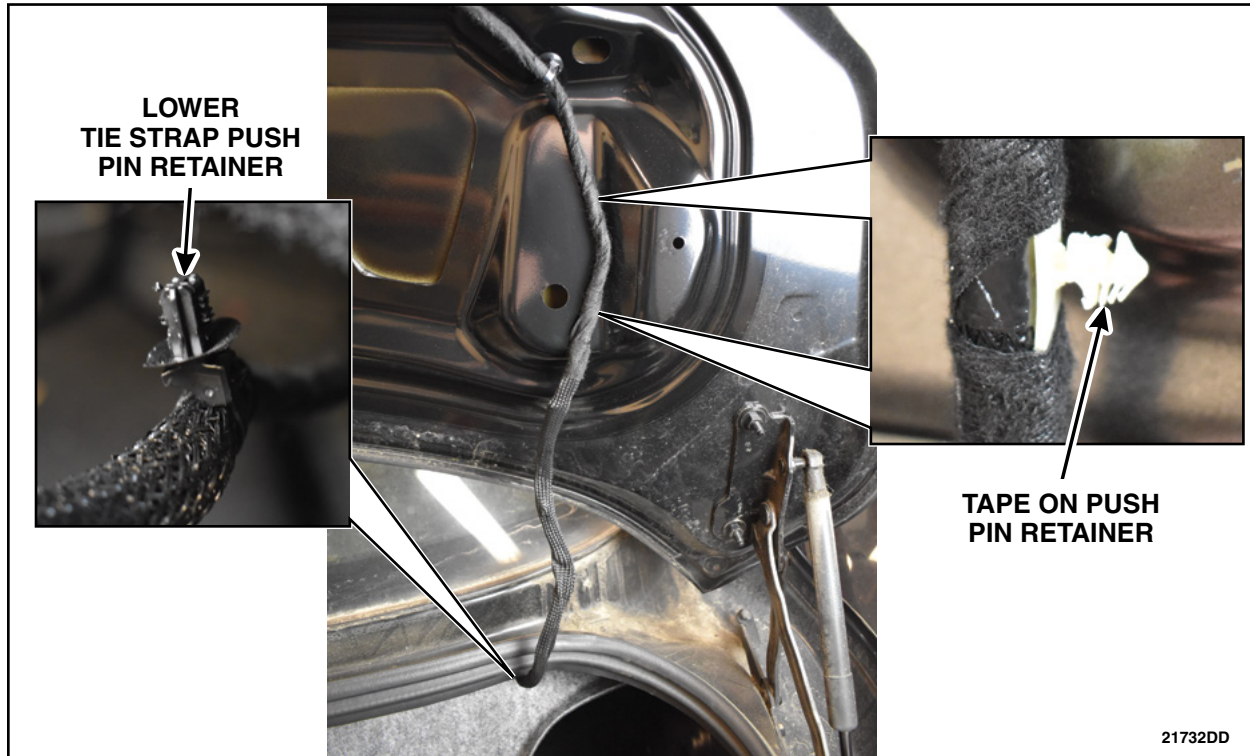

FIGURE 31
44. Disconnect the lower tie strap push pin located inside the luggage compartment and the 2 tape on push pins retainers on the luggage compartment lid. See Figure 31.